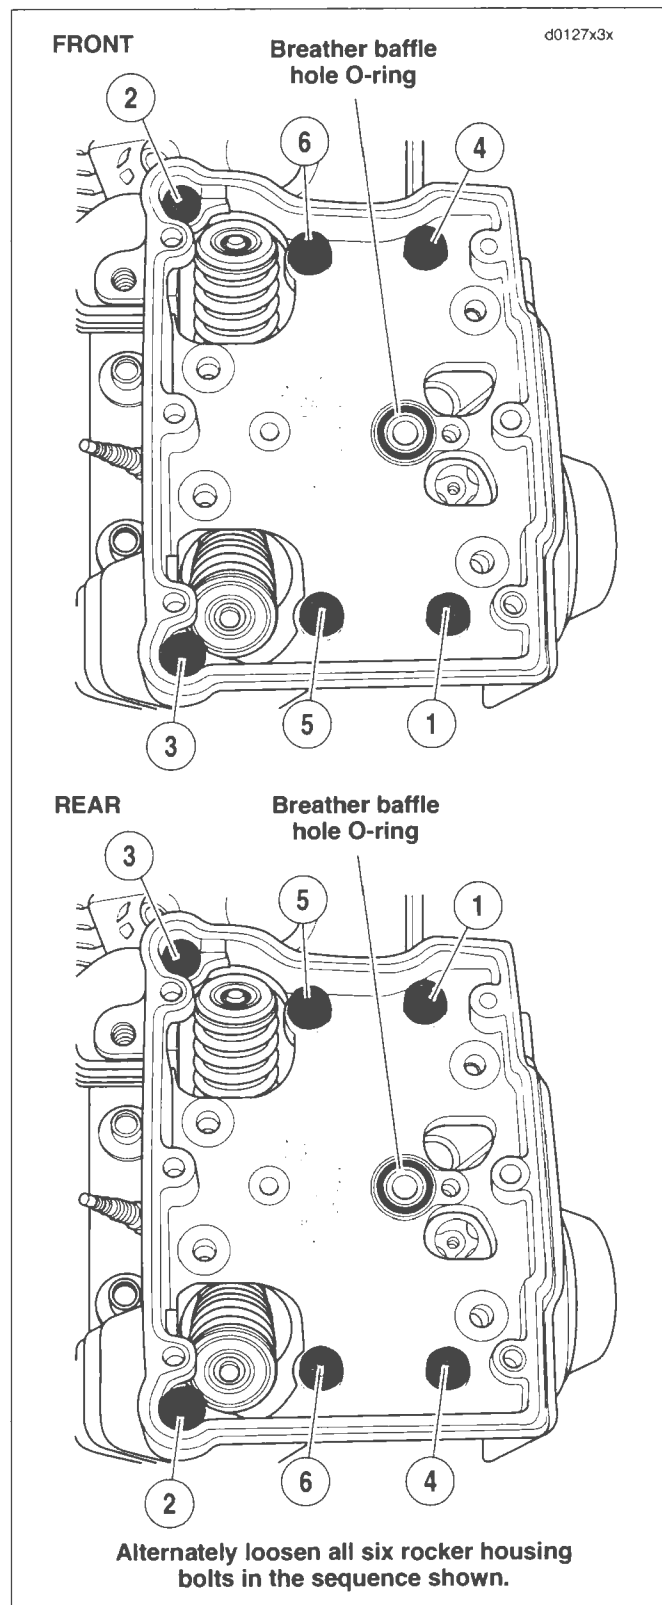

Figure 3-23. Rocker Housing Bolts
- a. Using a crosswise pattern, remove four screws with captive washers (1) to release the lifter cover (2).
4. See Figure 3-23. Remove and discard O-ring from groove around breather baffle hole in rocker housing.
1. See Figure 3-23. Following the sequence shown, alternately loosen the six rocker housing bolts. Remove rocker housing bolts and their captive washers.